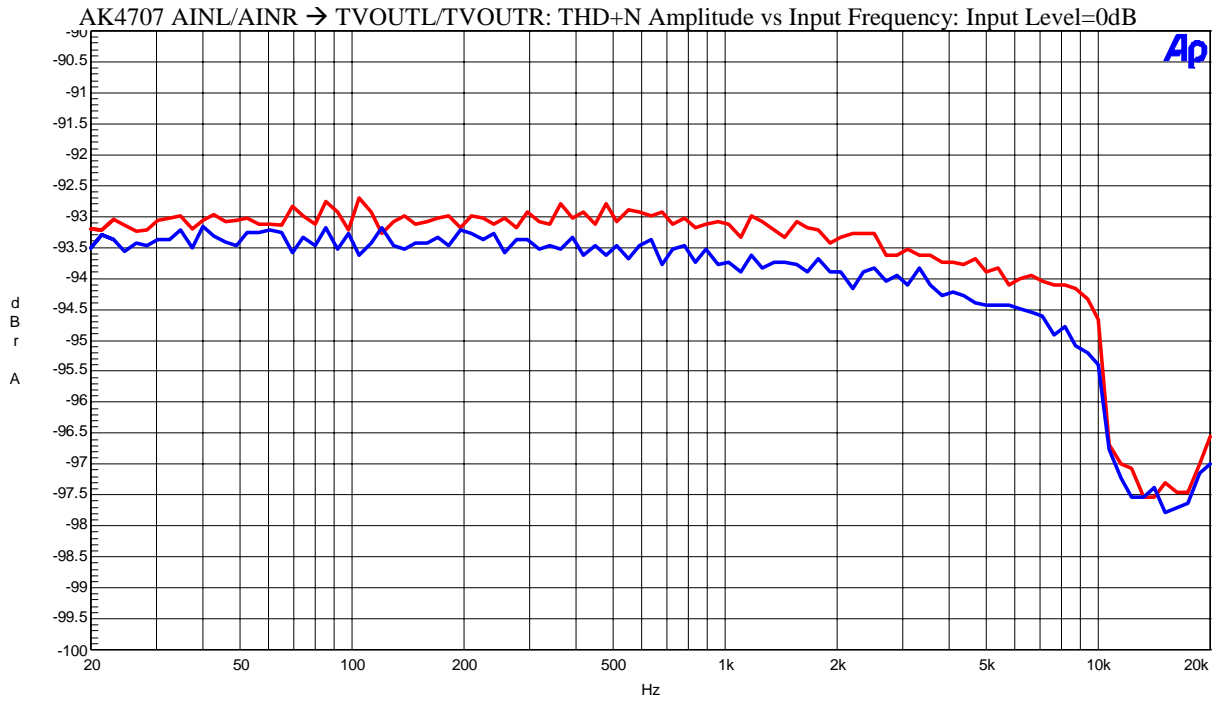

Figure1-5. THD+N vs. Input Frequency (Input level=0dBFS)
- Figure 1-5. THD+N vs. fin (Input Level=0dBFS)